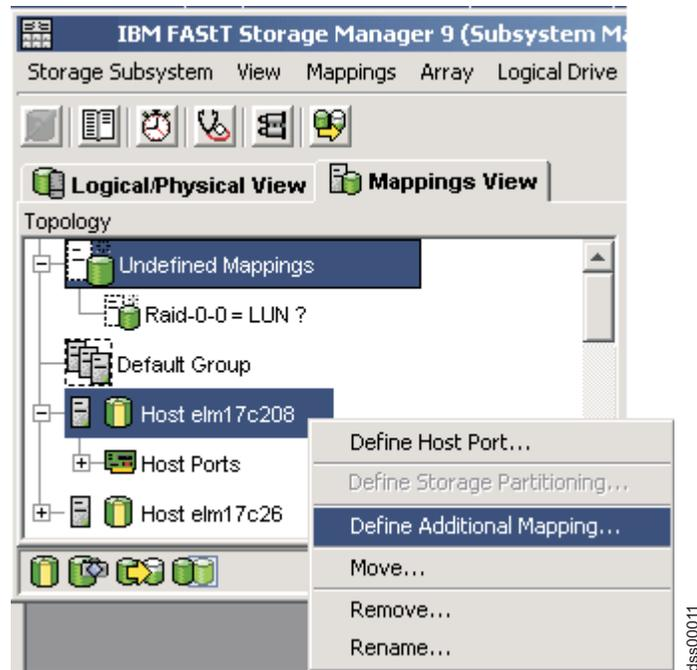

Figure 10. Define Additional Mapping
2. Right-click the host or host group to which you want to map the drive, and click **Define Additional Mapping**, as shown in Figure 10 on page 31.